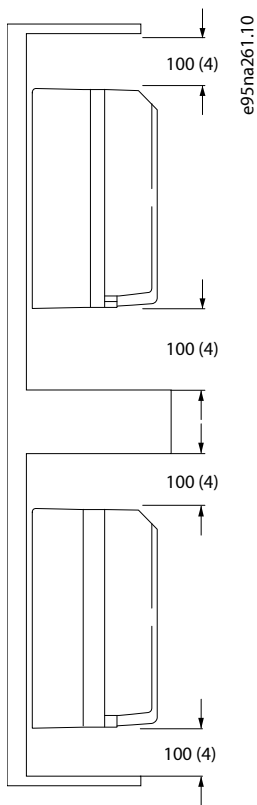

Figure 8: Top and Bottom Cooling Clearance
- Provide a minimum of 100 mm (4 in) top and bottom air cooling clearance during installation, as shown in Figure 8.